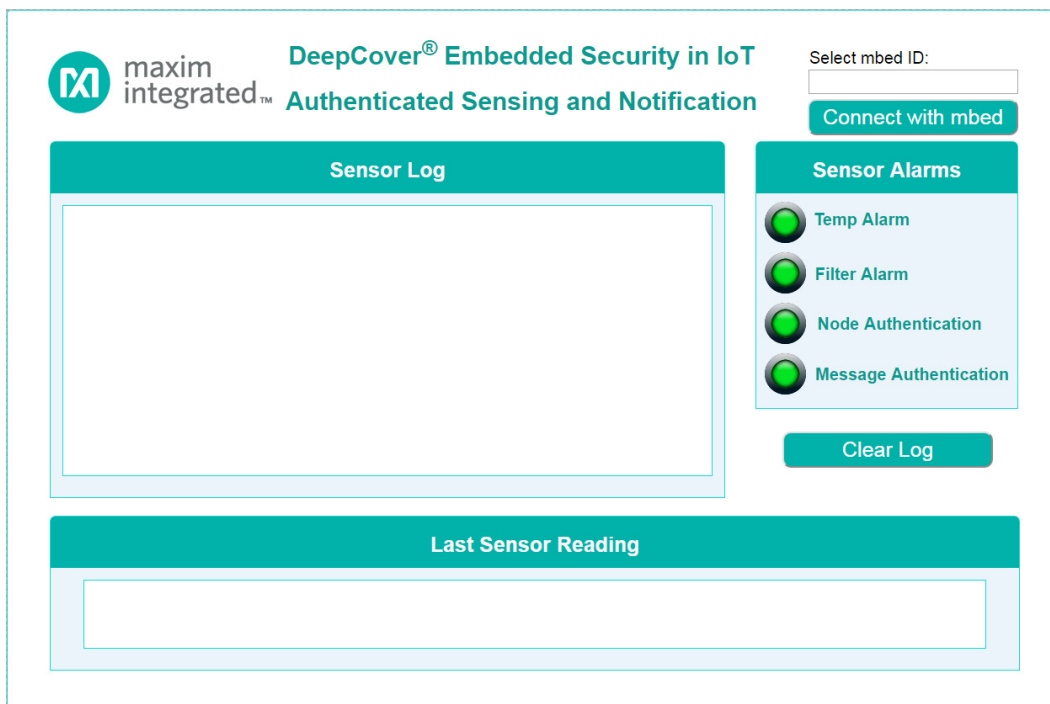

Figure 1. User page.
3. Take note of the address and port for the web server. The user page should now be visible from the web browser (**Figure 1**).